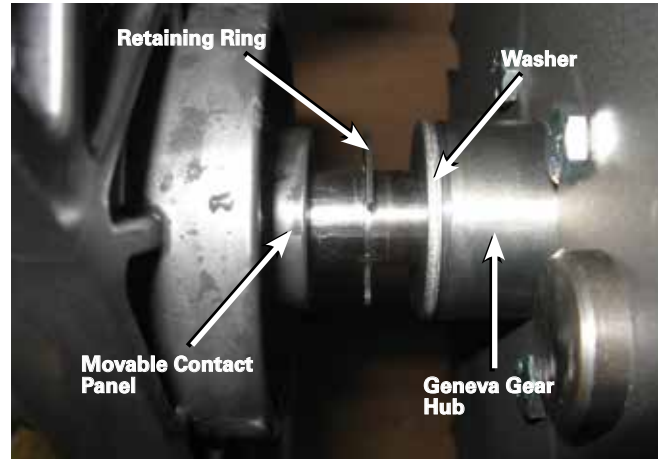

Figure 8. Shaft positioning.
- Push the main shaft from the threaded end partially through the steel front plate of the tap-changer so that the retaining ring on the main shaft is centered between the movable contact panel and the washer/Geneva gear hub. Refer to Figure 8.